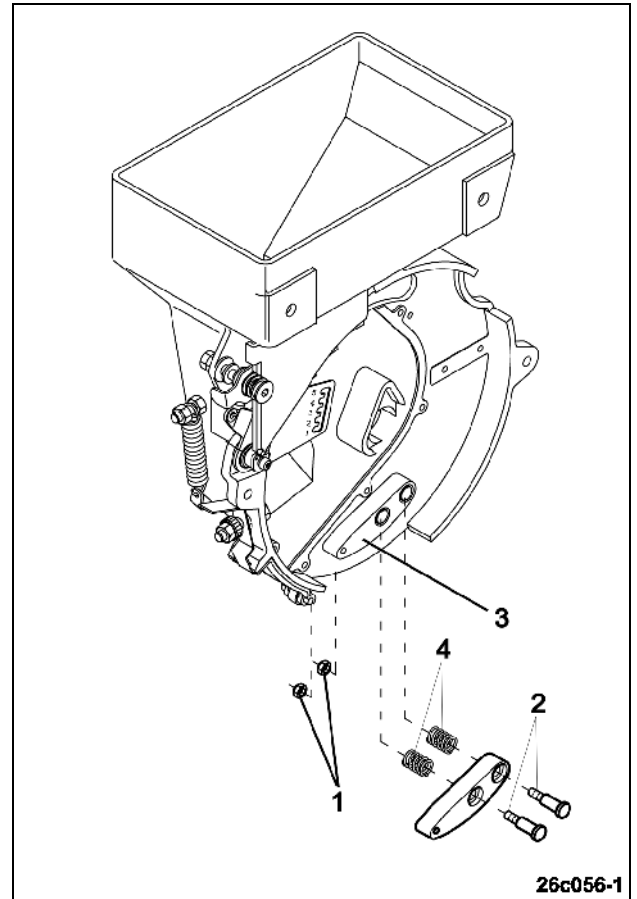

Fig. 71
For exchanging slacken the nuts (Fig. 71/1).
**Bolts (Fig. 71/2) are provided with a hex. socket.**
Remove the scraper (Fig. 71/3) with bolts and springs (Fig. 71/4).